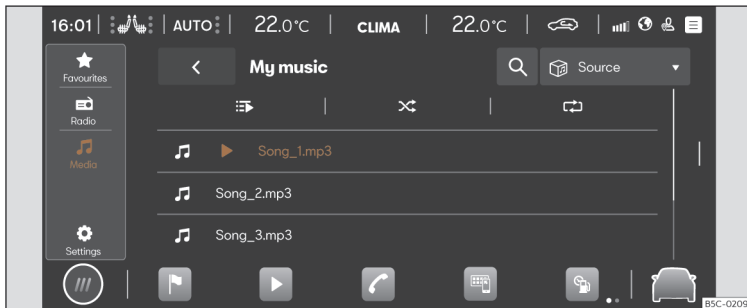

Fig. 175 Schematic diagram: Media view
- Press **HOME** > **▶** > **🎵** >>> **Fig. 175**.